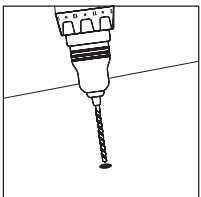
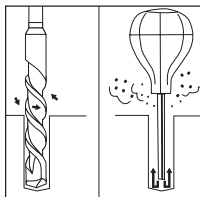

Figure 6
Figure 7
6. Move the safe aside to clear the marked spot for drilling. Then drill a 5/8 in./16mm diameter hole with a depth of 2 1/8 in./54mm and remove any excess dust (Figure 6 and Figure 7).